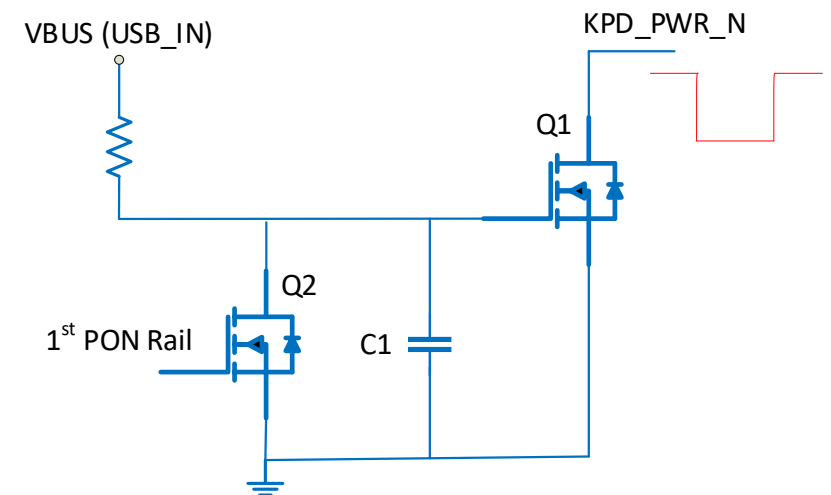
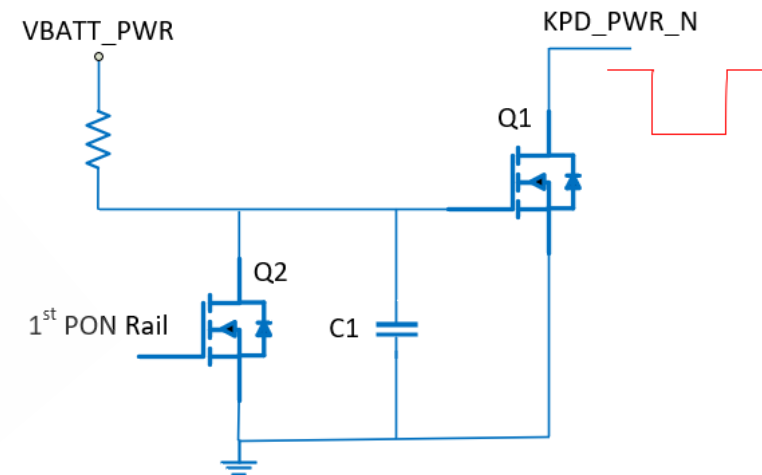
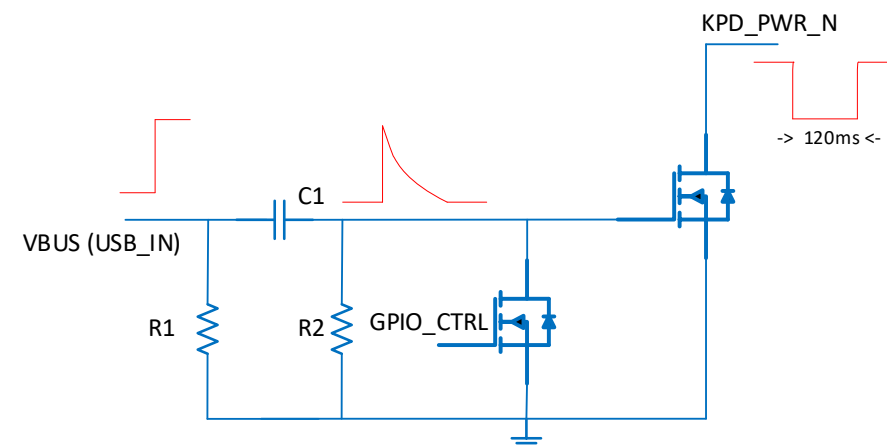

Figure 1: PON trigger circuit for float charger insertion.
Figure 2. PON trigger circuit for DC Power insertion at VBATT
Figure 3. High pass filter logic trigger circuit
- If Mux output is connected to VBUS, then it needs a trigger circuit as shown in figure 1.
- In external buck powered use cases, the PON trigger maybe required at buck power (that is VBATT power up, also called CBL_PWR_N trigger) in such cases the circuit can be used as shown in the figure 2.
- If a high pass filter logic trigger (figure 3) is used, ensure that the RC delay should assert the KPD_PWR_N for ~120 ms (typical).
- PON trigger circuits shown in figure 1 and figure 2 are closed loop logic. It is more effective to the open loop PON trigger logic (figure 3).